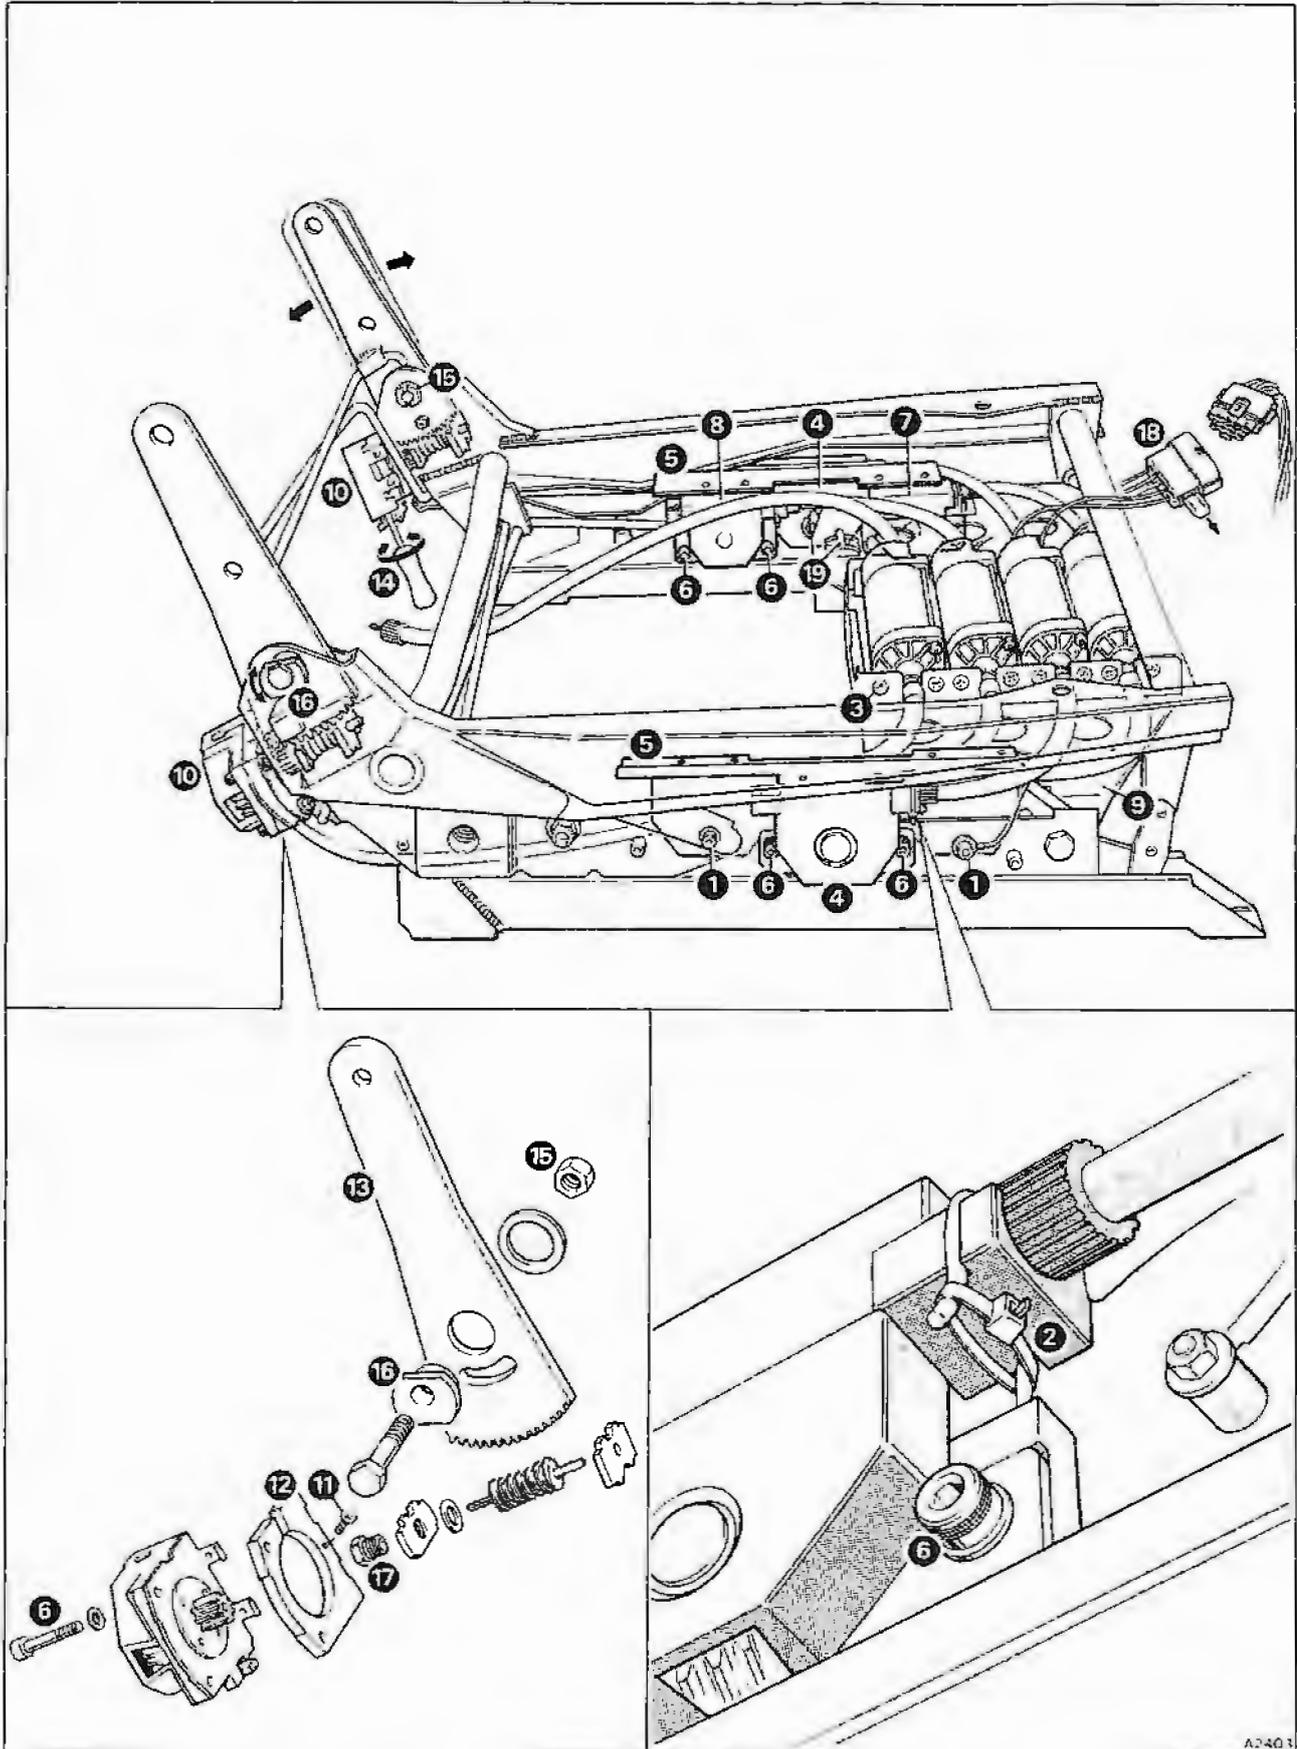

Fig. S13-2 Front seat mechanism
Drive cables – To renew (see fig. S13-2)
Forward and rearward movement gearbox – To renew (see fig. S13-2, item 4)
4. Unscrew and remove the plastic gearbox cover (item 5).
5. Cut and discard the plastic cable tie (item 2) and remove the drive cable securing clip.
Front tilt gearbox/rear tilt gearbox – To renew (see fig. S13-2, items 7 and 8)
5. If the front tilt gearbox (item 7) is to be renewed, release the motor mounting bracket (item 9) from the seat mechanism slide.
6. Cut and discard the plastic cable tie (item 2) and remove the drive cable securing clip. Note that a new cable tie must be fitted on assembly.
8. Remove the gearbox centre shaft nut, washer, and spacer (item 1) and release the sensor earth lead (if fitted).
10. Remove the gearbox securing bolts, nuts, and washers (item 6).
(see fig. S13-2, item 10)
5. Cut and discard the plastic cable tie (item 2) and remove the drive cable securing clip. Note that a new cable tie must be fitted on assembly.
7. Remove the gearbox securing bolts, nuts, washers, and self-tapping screw (items 6 and 11).
8. Carefully withdraw the gearbox and spacer assembly. Unscrew and remove the spacer (item 12) and discard the gearbox.
Seat mechanism twist – To correct (see fig. S13-2)
Seat squab rake adjustment (see fig. S13-2)
Motor – To renew (see fig. S13-2)
Seat memory electronic control unit (if fitted) – To renew (see fig. S13-2)